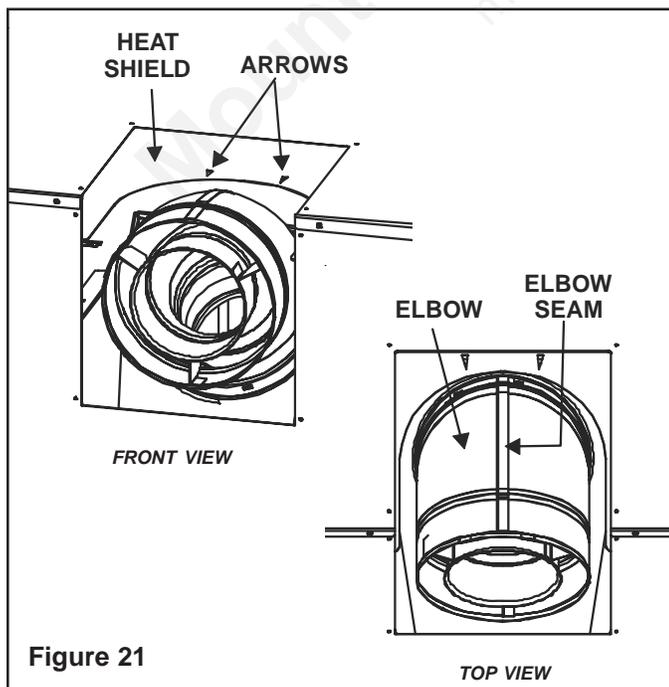

Figure 21
- The elbow can be removed from the unit by aligning the seams of the elbow to the arrows on the surrounding heat shield (see Figure 21).